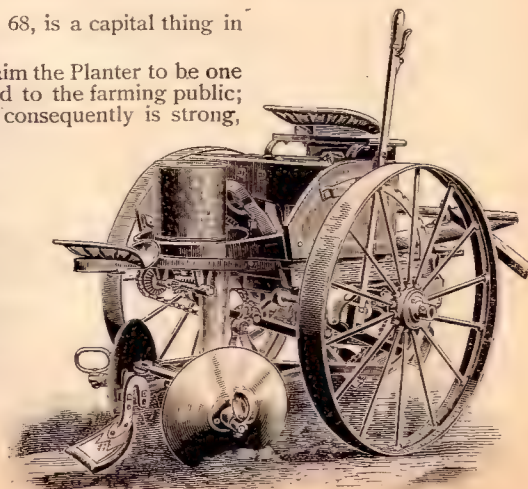

Fig. 68
**Our New Seed Attachment** (see Fig. 68) will sow corn, beans and peas in continuous rows, or drop corn and beans in hills at 12, 14, 15½, 17, 18½ and 20 inches apart, or even closer by applying the small sprocket wheels intended for changing the speed of the fertilizer distributor to the shaft of the feed wheel.
Our Leveler Attachment, also shown in Fig. 68, is a capital thing in leveling and smoothing the rows.